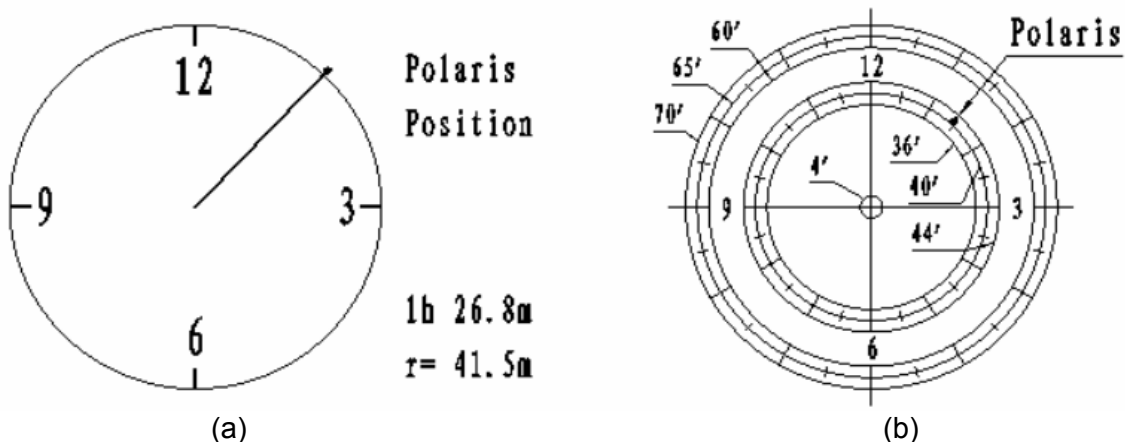

Figure 14
- (1) Turn on the mount power by pressing the **On/Off** switch on the R.A. unit. Waiting “**GPS OK**” is shown in the upper right corner of the HC. If you are practicing inside or the GPS signal is weak, manually enter the correct site information and locate time. Pressing the **MENU** button, then select “**Align**” and “**Polaris Position**” to display the Polaris Position on the LCD screen, as shown in Figure 14 (a). For example, on May 30, 2010, 20:00:00 in Boston, US (Lat N42°30’32” and Long W71°08’50”), 300 min behind UT, the Polaris Position is 1hr 26.8m and  $r = 41.5m$ , as shown in Figure 14 (a).
- (2) Look through the polar scope; make sure the polar scope is not blocked by the DEC axle. The 12 o’clock indicator of the Polar Scope Dial must be positioned on top.
- (3) Follow the **Polar axis adjustment** procedure (**not the hand controller**) to adjust the mount in altitude (latitude) and azimuth (heading) direction and place Polaris in the same position on the Polar Scope Dial as indicated on the HC LCD. In this case, the Polaris will be located at a radius of 41.5’ and an angle of 1 hour 26.8 minute, as shown in Figure 14 (b).